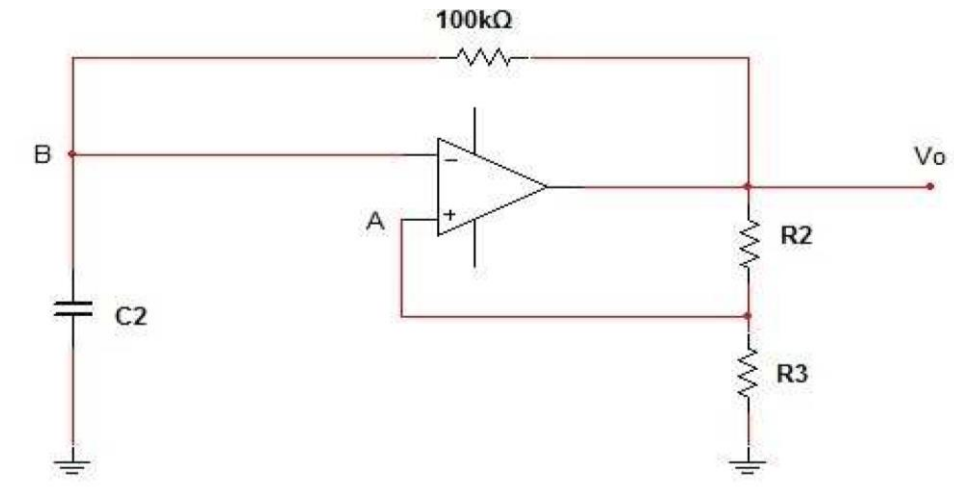

Figure 3.2
- a) Connect the circuit as shown in figure 3.2.